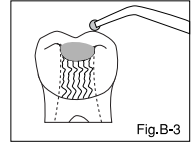

Fig.B-3
- a) Using a suitable instrument, place the mixed material over the cotton pellet (Fig.B-3).